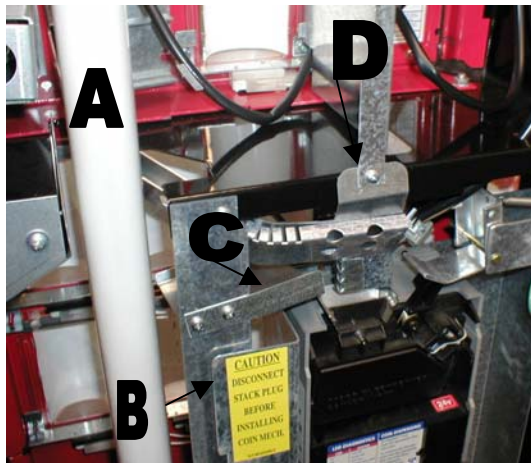

Figure 1
2. Remove the Lamp near the existing Coin Chute Assy. See "A" Figure 1.
3. Open the access door. See "B" Figure 1.
4. Remove the water deflector. See "C" Figure 1.
5. Remove the screw securing the existing Coin Chute to the horizontal bulkhead. See "D" Figure 1.